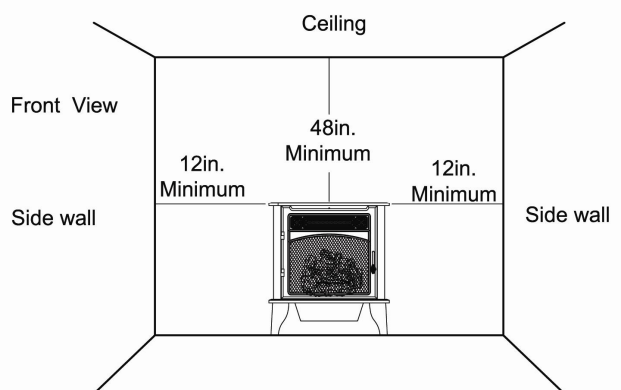

Figure 4 – Minimum Clearance to Wall and Ceiling
**IMPORTANT:** You must maintain minimum wall and ceiling clearances during installation. The minimum clearances are shown in Figure 4. Measure from outermost point of heater.
#### Minimum Wall and Ceiling Clearances (see Figure 4)